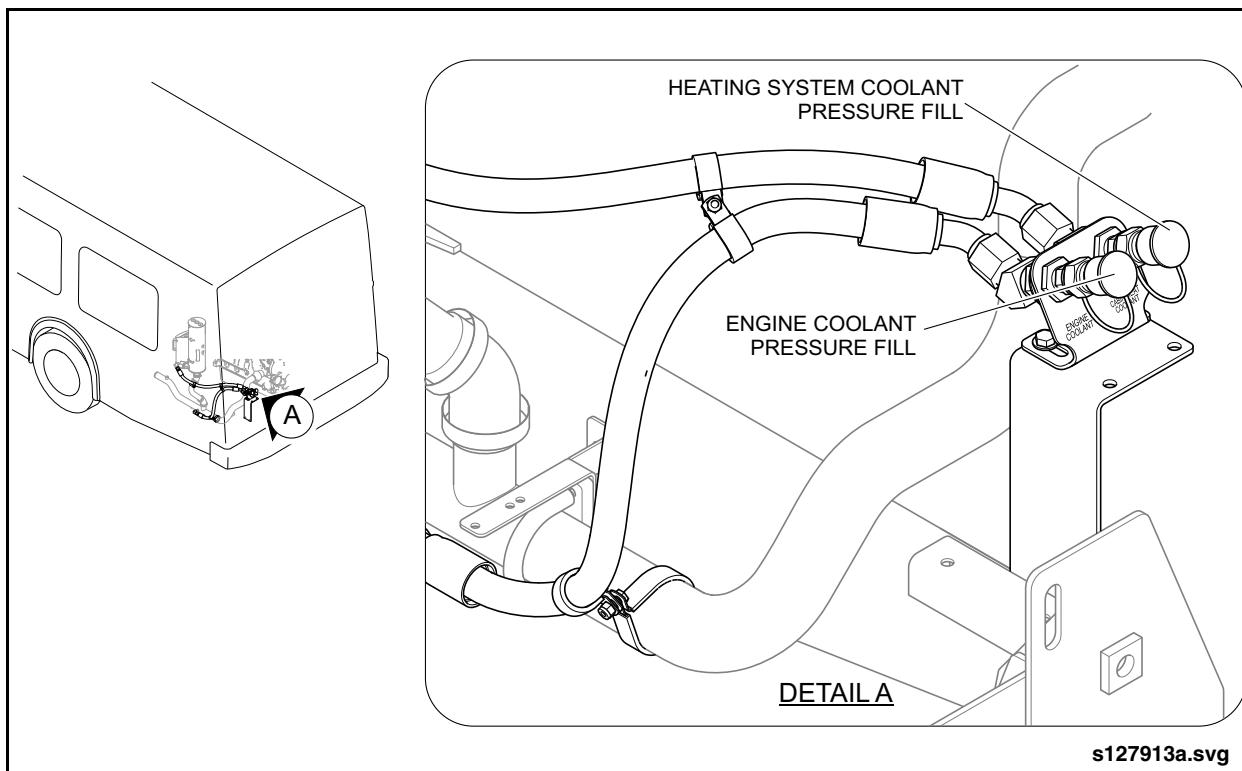

Fig. 6-1: Pressure Fill Connectors
4. Locate the engine coolant pressure-fill connector in the engine compartment. See “Fig. 6-1: Pressure Fill Connectors” on page 6.